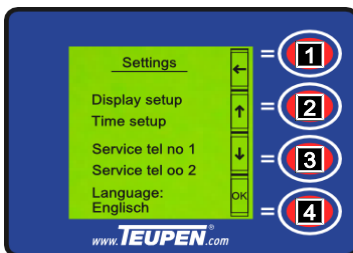

Fig. 89
6. Use the *[function keys]* (Fig.89/2 and 3) to select a submenu.
7. Access the selected submenu with the *[function key]* (Fig.89/4).
8. Return to the main menu with *[function key]* (Fig.89/1).